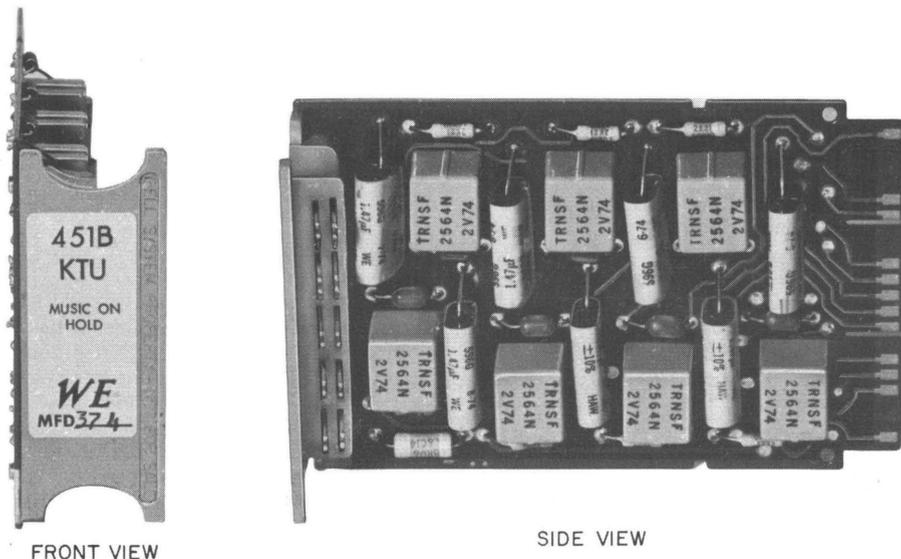

Fig. 1—451B KTU
1.01 This section provides identification, installation, operation, maintenance, and connection information for the 451B key telephone unit (KTU) (Fig. 1) and Protective Connecting Arrangement (PCA) FTM. The 34A voice coupler is used to implement PCA FTM. This PCA provides a connection between a customer-provided (CP) music or information source and the music-on-hold circuit (451B KTU) in a telephone company 1A2 Key Telephone System (KTS).